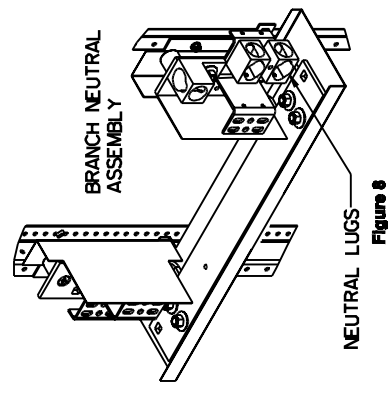

Figure 8
9. Reference fig. 8 - Installing the Branch Neutral Lug (item 16). The Branch Neutral is located at the bottom of the "Z-rail", or mirrored at the top depending upon the feed cable location. The Neutral Lug assemblies can be mounted, as shown, on either side of the Branch Neutral depending on cable feed location. Torque all hardware as specified on the rear of the dead front.